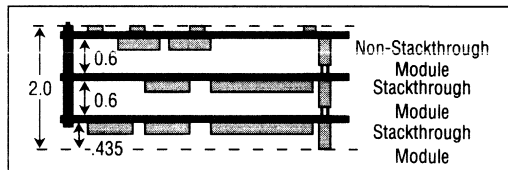

Figure 2. Standalone Board Stacks.
**Standalone Module Stacks:** As shown in Figure 2, PC/104 modules are self-stacking. In this approach, the modules are used like ultra-compact bus boards, but without needing backplanes or card cages.
Stacked modules are spaced 0.6 inches apart. (The three-module stack shown in Figure 2 measures just 3.6 by 3.8 by 2 inches.) Companies using PC/104 module stacks within their products frequently create one or more of their own application-specific PC/104 modules.